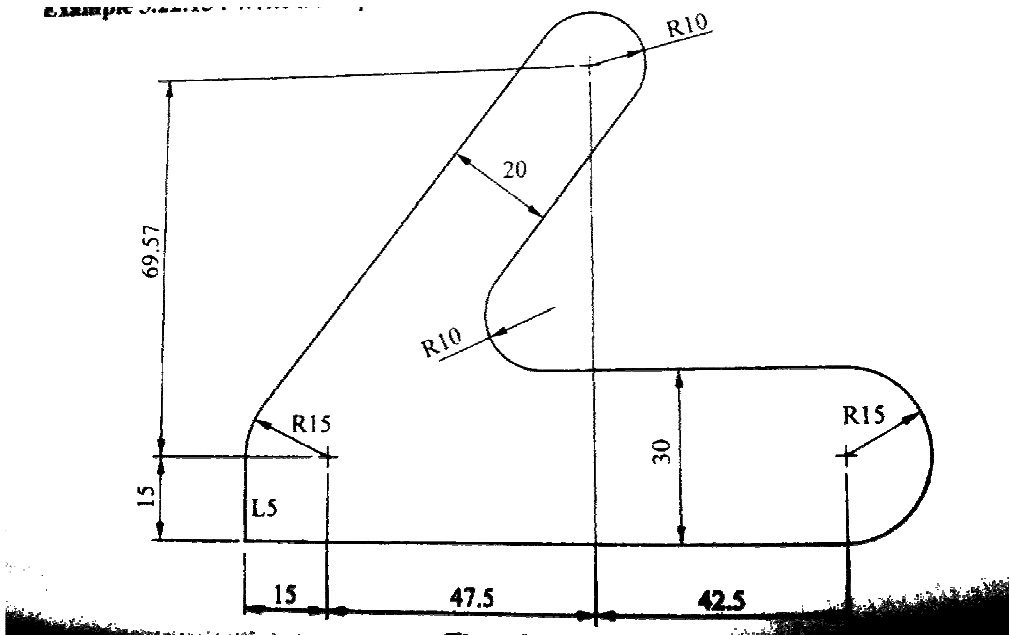

Fig.1
- Q.5 (a)** Write a complete part program for machining the component as shown in fig.1 **10**